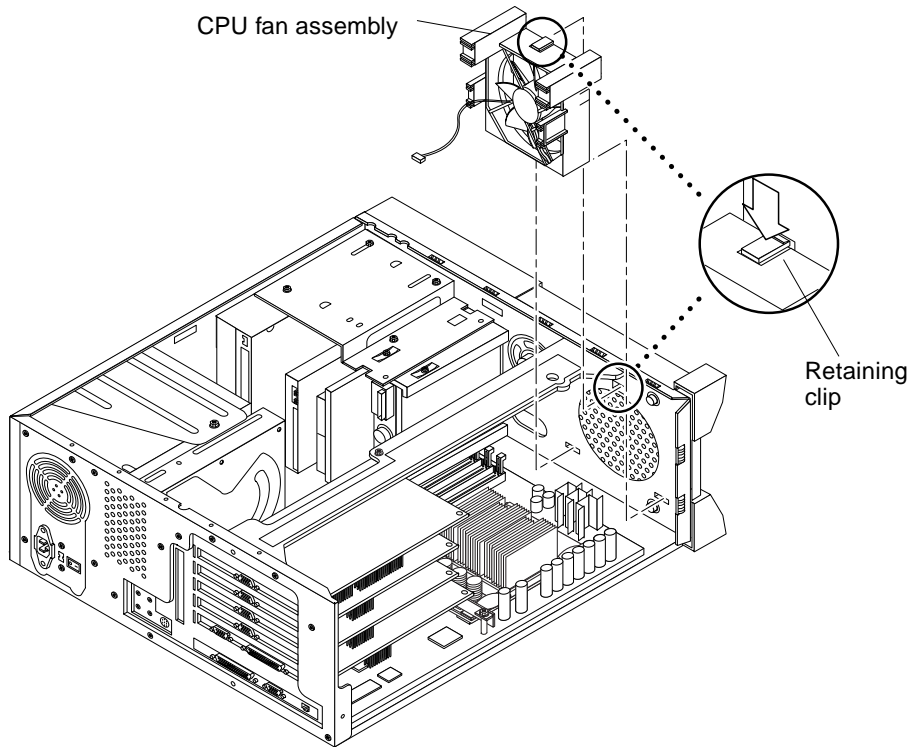

FIGURE 6-7 Removing and Replacing the CPU Fan Assembly
2. **Remove the CPU fan assembly as follows (FIGURE 6-7):**
1. **Replace the CPU fan assembly as follows (FIGURE 6-7):**